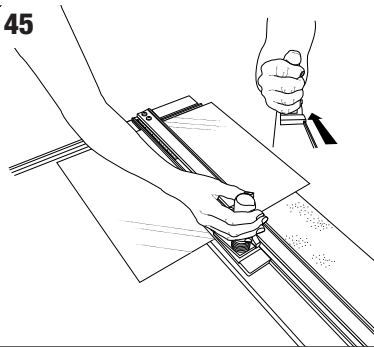

Fig. 46
8. Slide glass to align score with edge (**Fig. 46**) of board.